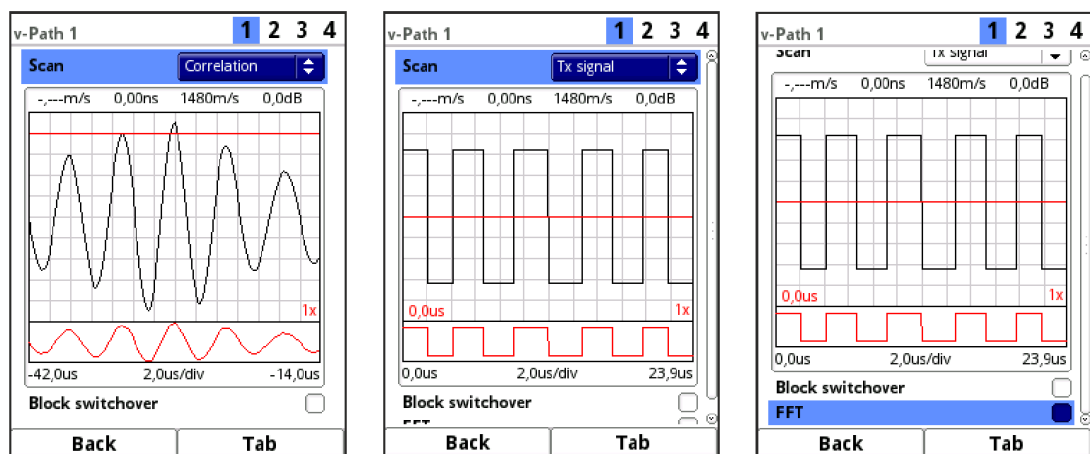

Fig. 41-4 Correlation / Tx signal
- >Correlation<** (Fig. 41-4)
- >Tx signal<** (Fig. 41-4)